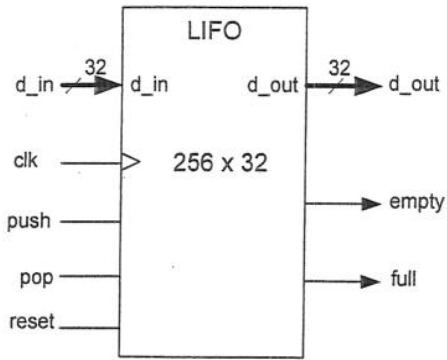

Figure 6.1
6. *Figure 6.1* depicts a 256 x 32 bit synchronous stack or last-in-first-out (LIFO) memory module that is implemented using an FPGA. The signal *reset* initializes the LIFO to an empty state. All control, address and data signals change shortly after the rising edge of *clk*.